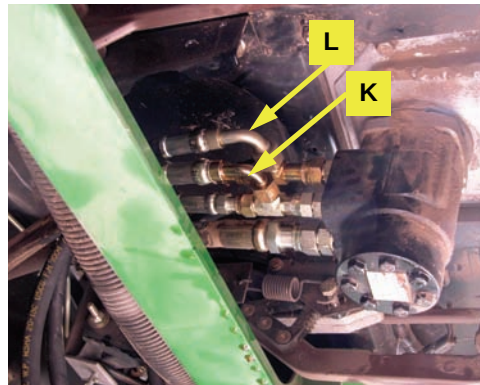

Figure 6a: Steering hoses at run tees at orbital
- a. Connect the 90° elbow ends of the steering output hoses **L** and **K** to the run tees **I** and **J** respectively at the steering orbital (Figure 6a)